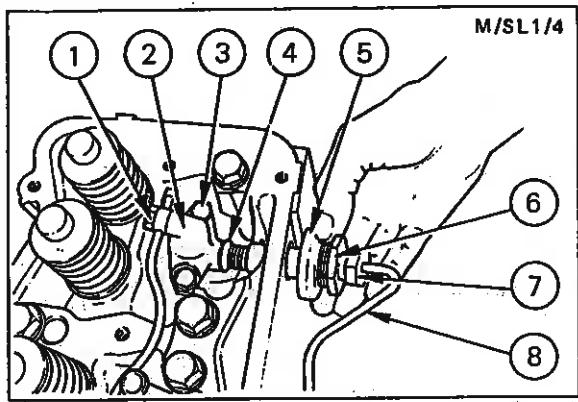

Fig. 14 - Removing Injector.
6. Slacken the large oil seal nut (Fig. 14). Where necessary, remove high pressure pipe clamps to gain access.
4. Insert the leak-off pipe banjo bolt (Fig. 14) and tighten it by hand only.